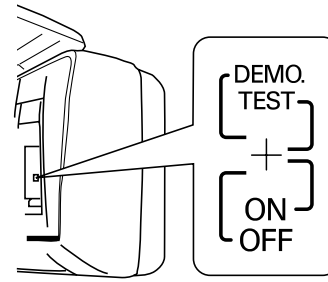
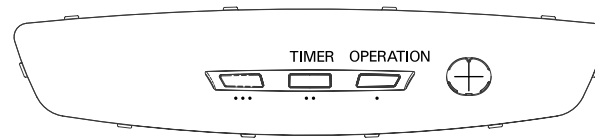

Fig. 37
Fig. 38
- (1) Turn the indoor unit selector switch to the "ON" position. (Fig. 37)
- (2) With the remote controller, start heating or cooling operation.
- (3) Turn the selector switch to "TEST RUN." (The indicator lamp blinks during test run operation.)
- (4) After the test run is completed, turn the selector switch to "ON." Operation stops, and remote controller control becomes possible.
- If the OPERATION lamp only blinks or the outdoor unit does not start approximately 5 minutes after the start of the test run, perform self-diagnosis by switching to OFF. Follow the self-diagnosis procedure listed on the right inside of the grille. The combination of the 3 indicator lamps indicates the condition of the system. (Fig. 38)